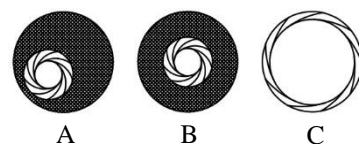

Figure 8
- 5.2. **Condenser Alignment** – to center the abbe condenser in the optical light path. See Figure 8.
- c. Adjust the sub-stage adjustment knob until the side of image is clear. Adjust the Abbe condenser centering screw until the iris diaphragm locate in the center of field of view, see figure 8 B.
- d. Open the iris diaphragm until the image is almost as large as the field of view, see figure 8 C. Raise Abbe condenser again for normal observe.